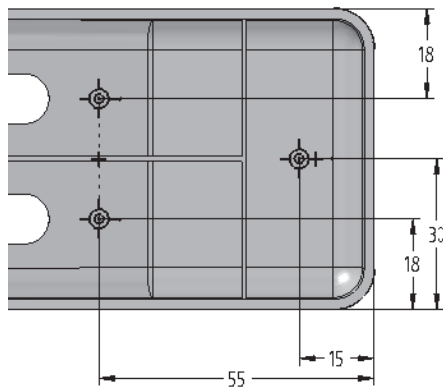

Figure 7-63 Partial view of the model with the profiles for mounting bosses
5. Place three instances of the mounting boss profiles and then add the required dimensions, as shown in Figure 7-63. It is recommended that you select the edge of the model as the first entity and the mounting boss profile as the second entity to add the dimension.